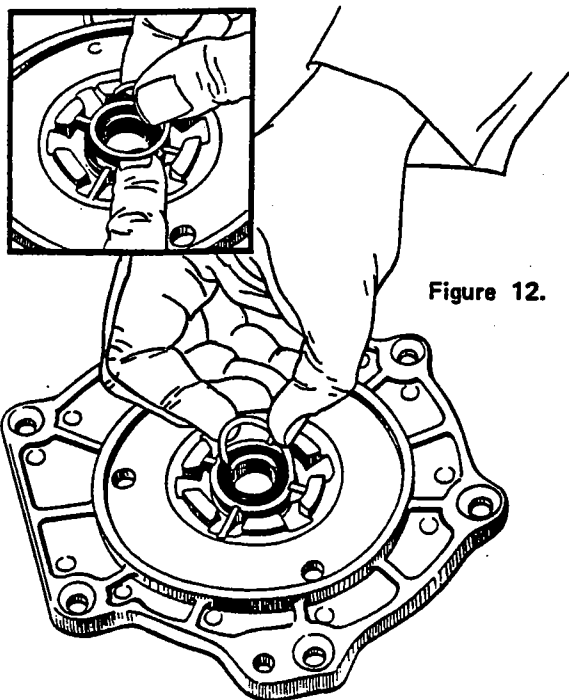

Figure 12.
G. The oil seal is secured in the bearing housing flange by a spiral retaining ring held in place under four retaining ears in the body of the flange. Carefully uncoil this retaining ring from beneath these ears, then lift out the carbon seal assembly. (See Fig. 12).
in the center of the bearing housing flange with the O-ring down against the flange mating surface. Note: If the seal cartridge becomes disassembled, this is the correct order for the parts. See Fig. 9 for detail. Open the spiral retaining ring slightly and insert the outer edge of the bottom end into one of the grooves machined into the seal retainer lugs. (See Fig. 12). Working in a counter-clockwise direction, continue to insert the retaining ring into the successive lugs until it is entirely in place. Press the carbon seal downward with both thumbs to make sure that it is not binding and that it moves freely.